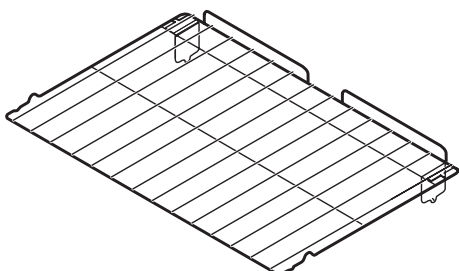

Figure 4
- **Effortless™ oven rack** (Figure 4 - Some models).
5. While holding the connector arm in place, twist the connector arm so the ends of the connector arm point upwards (See Figures 4 & 5). The connector arm should now be locked into position.